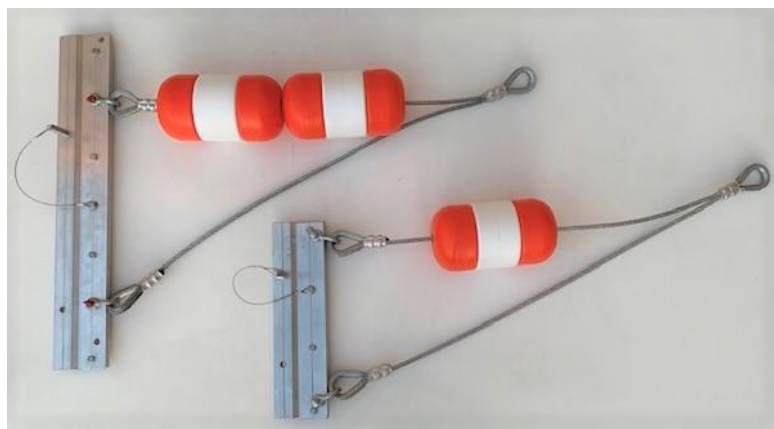

Figure 1 - Tow Bridles
6. Position the leading edge of the turbidity curtain closest to the water, and connect a tow bridle (Figure 1) to the leading end of the containment boom. The tow bridle distributes the force evenly across the end of the turbidity curtain and provides a secure connection as the turbidity curtain is towed. The turbidity curtain should be arranged in an accordion pattern so it can be pulled into the water with minimal movement out of water.